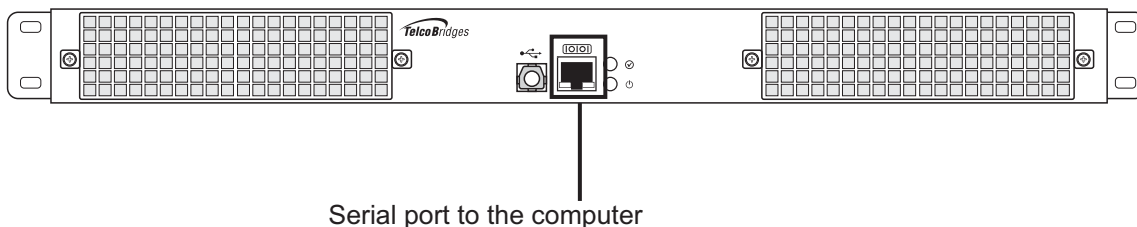

Figure 3.3 Computer to 800 Series Gateway Serial Port Connection
1. Connect one end of a CAT5 RJ-45 (male-male) cable to the Tmedia serial adapter (both supplied with unit). Connect the DB9 to RJ-45 to the serial port of the computer and the other end of the CAT5 RJ-45 (male-male) cable to the serial port (labeled 10101) of the 800 series gateway as shown in figure 3.3 on page 44. See Section A.2 “Tmedia Serial Adapter Wiring Diagram” on page 52 for a RJ-45 pin out description.